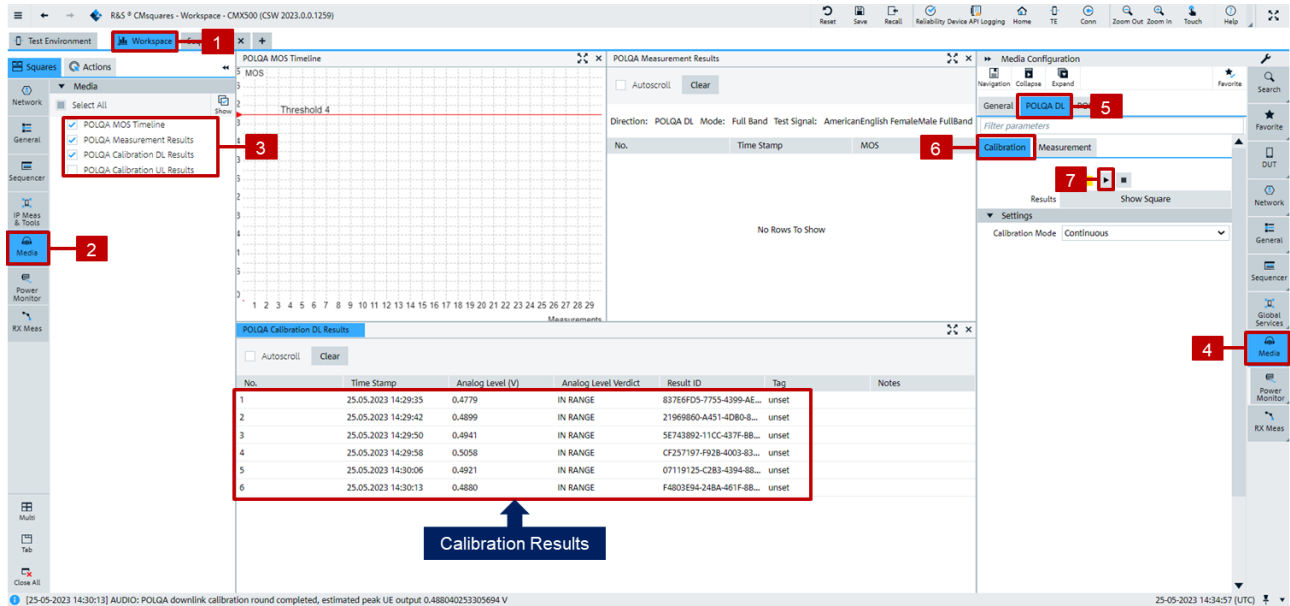

Figure 4-7 Perform DL audio level calibration
3. Perform POLQA DL calibration with the steps indicated in Figure 4-7